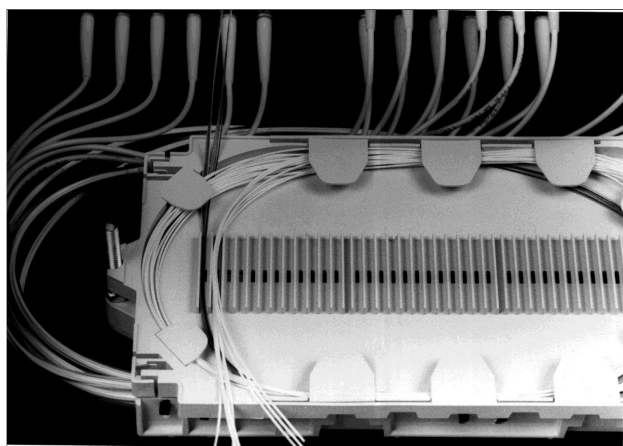

FIGURE 11 - ROUTE FIBERS IN SPLICE TRAY
- 8.08 Route the Pigtail and feeder cable fibers one complete turn around the Splice Tray and into the splice groove farthest from the entry point of the tubes. (Figure 11)